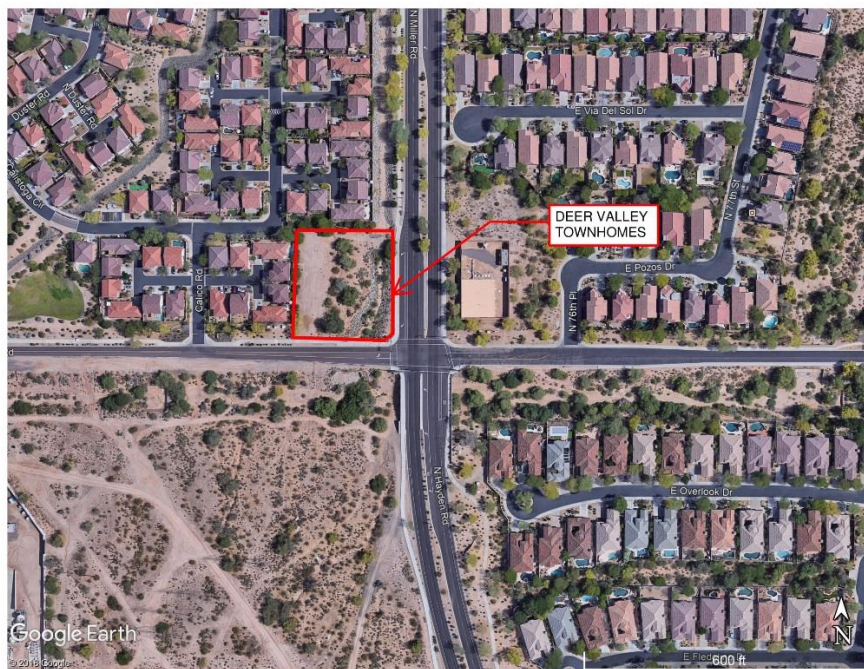

Figure 1: Location Map
The proposed Deer Valley Townhomes development (Project) consists of attached townhomes split between three (3) buildings on a one acre parcel. The Site is defined by the parcel boundary for APN# 212-02-010E and is located at the northwest corner of Miller Road and Deer Valley Road in Scottsdale (see figure 1 below). The current project zoning is PCOC and proposed project zoning is R-3. The site is currently undeveloped and the proposed development will be constructed all at once and will not be phased.